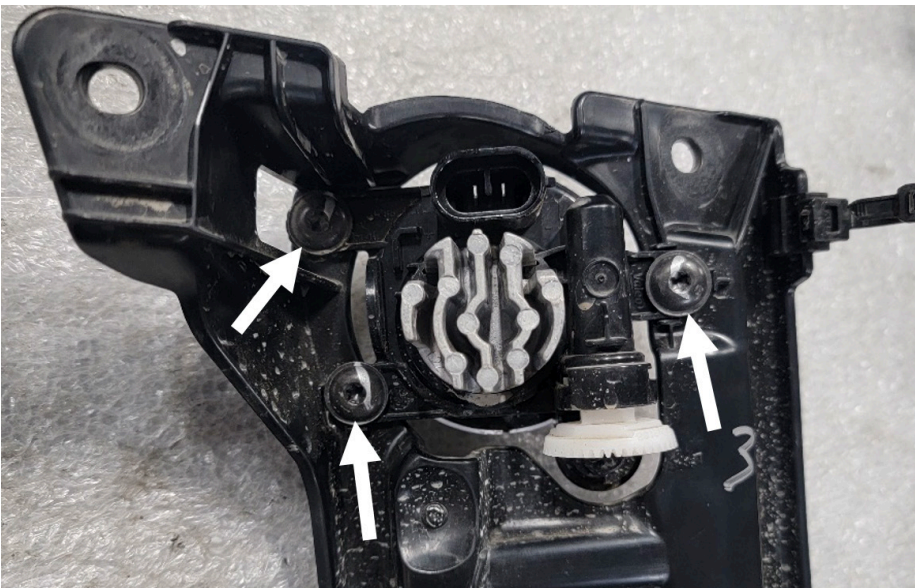

Figure 16
16. Remove the 3x button head cap screws holding the fog lights to the DS and PS brackets. Figure 16.